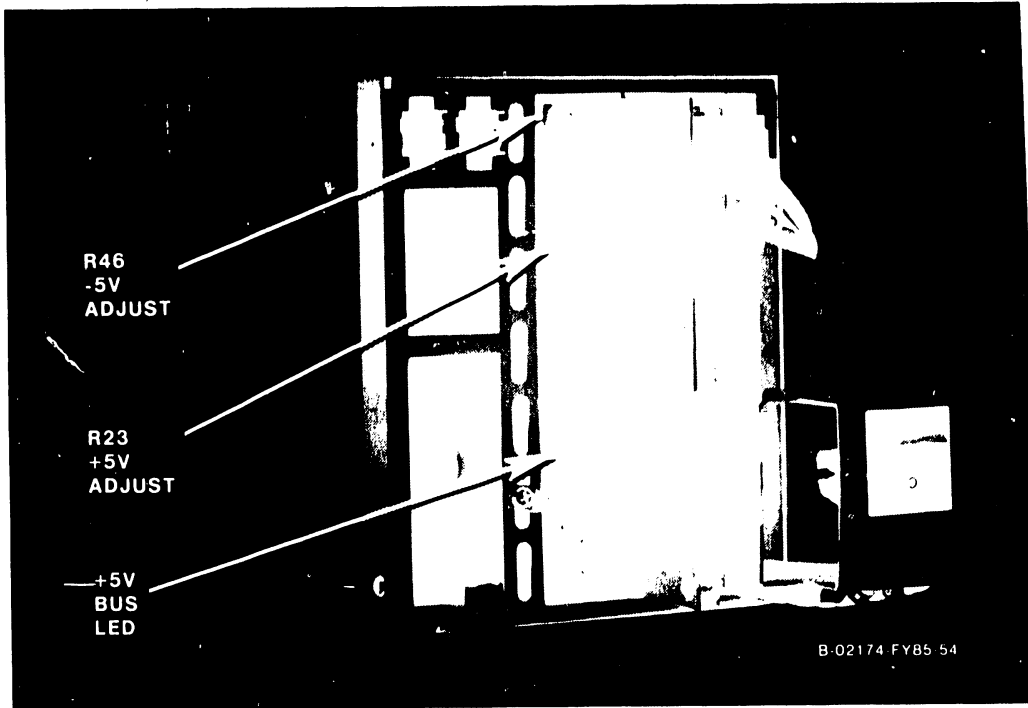

Figure 4-4. Switching Power Supply Adjustments and Indicators (Left Side View)
If the HEX display goes out after 2 seconds, there is a problem with the dc voltage compare circuit in the power supply. Check the power supply LEDs for low voltage indication using figures 4-4 and 4-5 and proceed with steps 7 through 10 below. If successful, press the red Initialize pushbutton and continue with step 5. If not, see paragraph 5.7.2 and verify the 115/220 switch position. If the switch is correct, replace the power supply.
9. With a nonmetallic adjustment tool, adjust the dc voltage(s) to within the operating limits. (See figures 4-4 and 4-5 for the locations of the adjustment pots.)